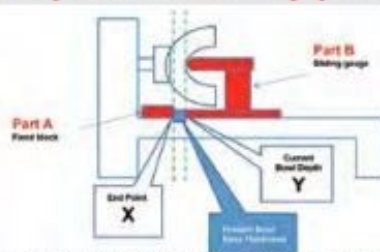

Figure 1: The gauge comprises two main components, shown in red. Part A is fixed, and Part B slides along the bed ways.
The gauge comprises two parts, both of which rest on the lathe bed: (A) a fixed reference point from which to measure and (B) a movable point that registers your current bowl depth (Figure 1).